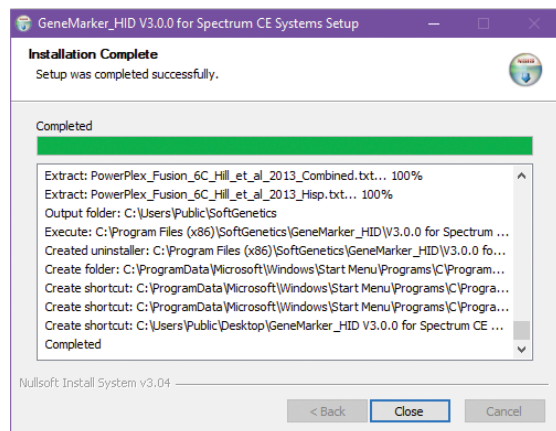

Figure 5. 'Installation Complete' window.
8. Select **Close** in the 'Installation Complete' window (Figure 5).